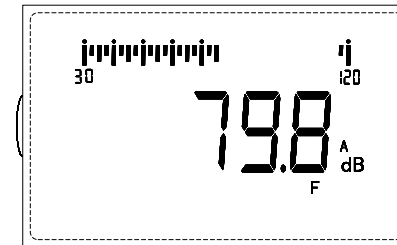

Fig. 5
1) Press the **WEIGHTING** key to make the display shows 'C', and the value displayed on the LCD is the measured value of 'C' sound level. Press the weighting key to make the display shows 'Lin', and the value displayed on the LCD is the measured value of 'linear sound level'. See Fig. 5.
3) There are 3 kinds of time weightings, Fast (F), Slow (S) and Impulse (I). Generally Fast 'F' is used. If the reading changes greatly, Slow 'S' can be used. Impulse (I) measurement is used for special requirements. As shown in Fig. 5.